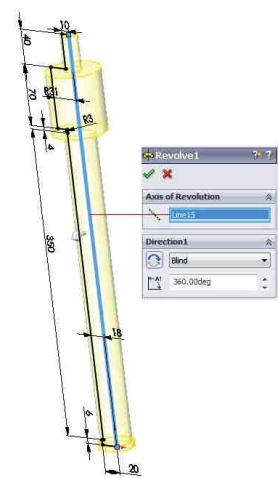

Fig. 1.22
- În caseta **Boss-Extrude** PropertyManager, sub zona **Direction 1** se va completa, fig. 1.22:
- In the PropertyManager, under **Direction 1**, fig. 1.22: